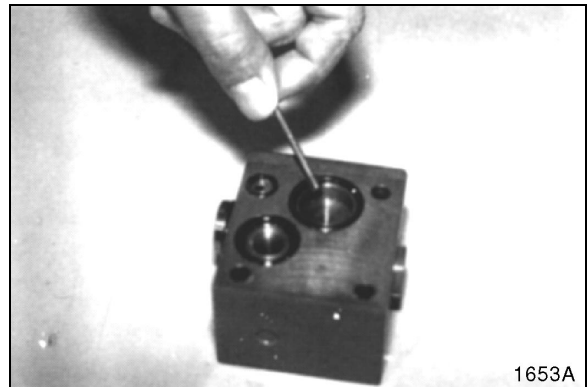

Figure 60
3. Remove orifice. See Figure 60.